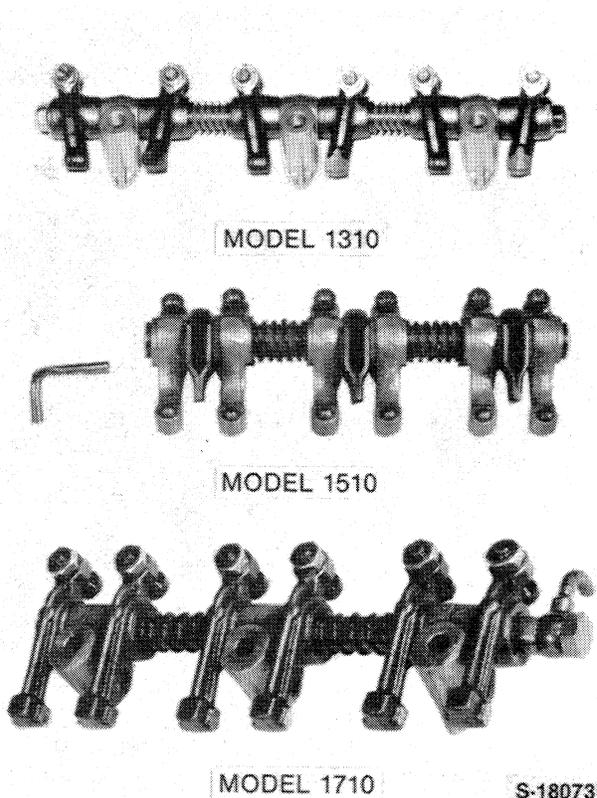

Figure 32
- Install the assembled rocker shaft, Figure 32, and tighten the support bolts in steps to the specified torque. See "Specifications," Chapter 3.